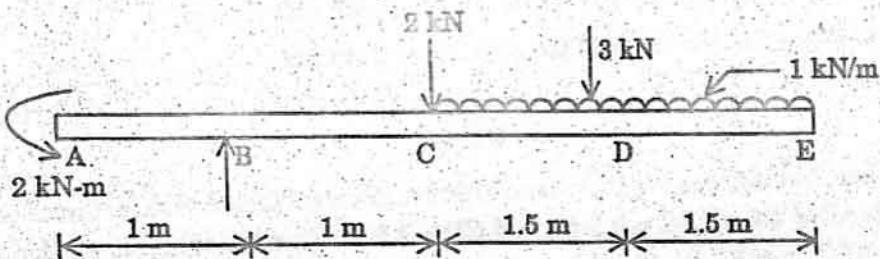

Fig. 4
- (b) Draw SFD and BMD for the beam shown in Fig. 4. Indicate the position and the magnitude of maximum bending moment.
- (b) Fig. 4 shows the cross-section of a cantilever beam of 2.5 m span. Material used is steel for which maximum permissible stress is  $150 \text{ N/mm}^2$ . What is the maximum uniformly distributed load this beam can carry?